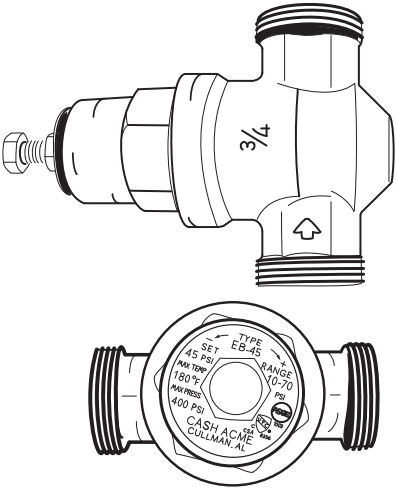

Figure 3 - Install a Pressure Reducing Valve set to 50 to 60 PSI.
- Pressure Reducing Valve (Figure 3 on page 6)